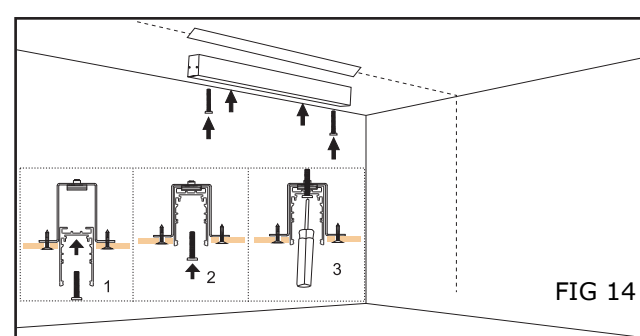

FIG 14
4. Install the track into the ceiling, and fix the track to the fitting using M7 screws. Ensure the screws are properly installed (Fig 14).